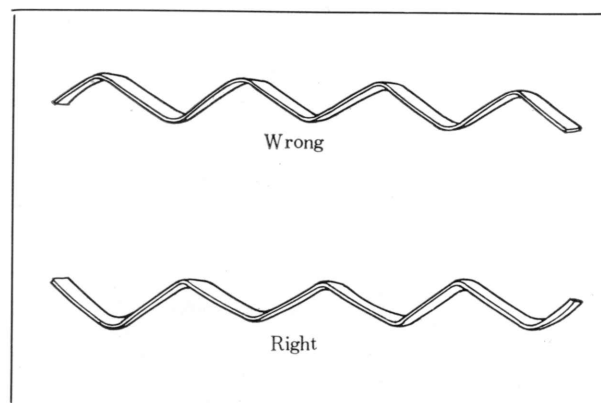

Fig. 1-83 Direction of seal spring
2. Fit the outer and inner oil seal springs in their respective grooves of the rotor so that **the end of the spring is upward** as shown in Fig. 1-83 and that **the spring gap is located opposite each other** as shown in Fig. 1-84.